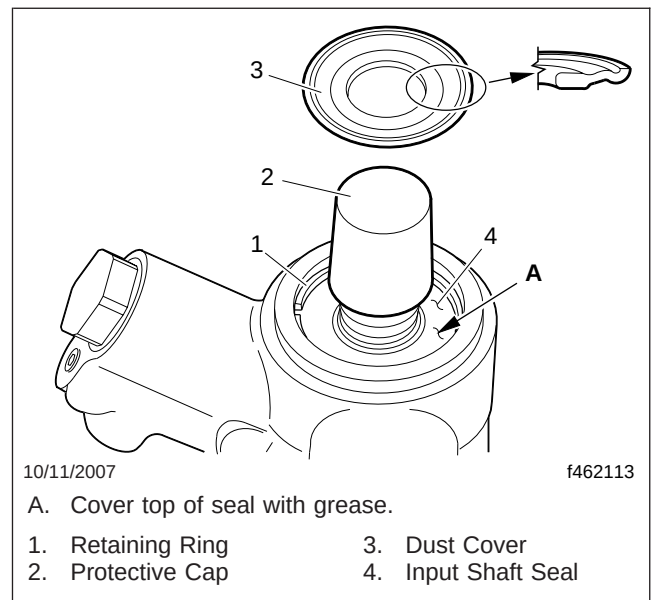

Fig. 2, Dust Cover Installation
16. Apply grease to the top of the seal, completely covering the seal. See Fig. 2.